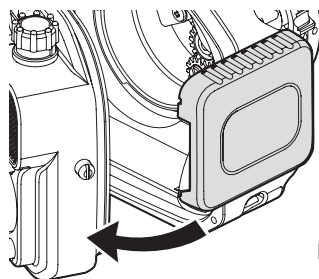

Fig.2
- 2 **Pull the rear case to open (Fig.2)**
- 2 Turn off the power of the camera and place it as shown in Fig.2